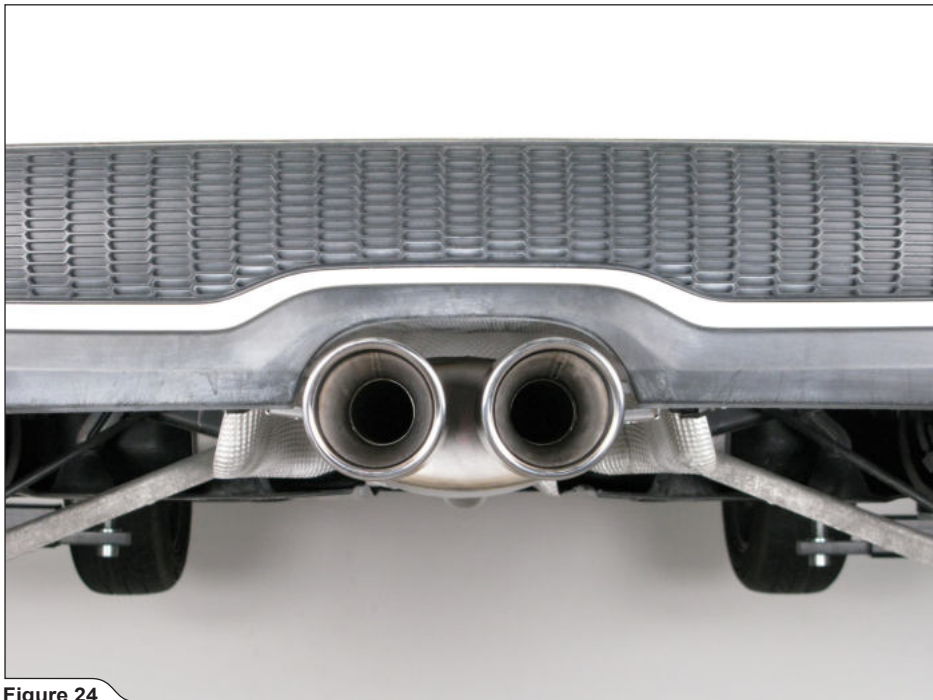

Figure 24
13. **For Tail-Pipes and Evolution:** slide the Akrapovič Tail Pipes onto the muffler outlets. Center them in respect to rear bumper and according to your personal taste (**Figure 24**).